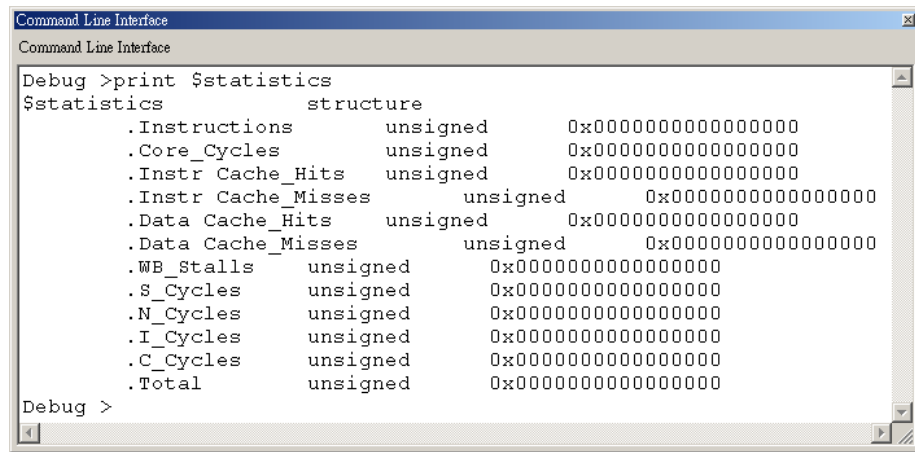

Figure 6. Cached core additional statistics.
9. Open **Command Line Interface Window** and enter `print $statistics`. Additional statistics for cached core is displayed, as one example displayed in Figure 6. Because we do not start the execution of the program, all values are zero.